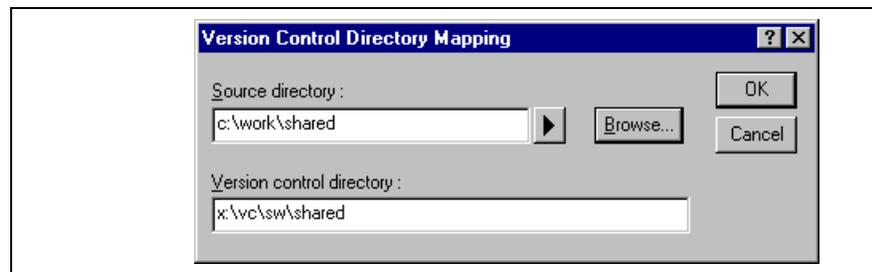

Figure 8.8: Version Control Directory Mapping Dialog
2. Click the “Add...” button that is next to the “Version control directory mappings” list. The dial in * MERGEFORMAT figure 8.8 will be displayed.